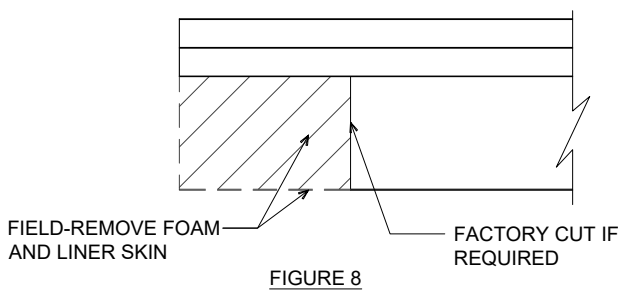

FIGURE 8
- 13.7 ALL WEATHER INSULATED PANELS THAT INCORPORATE END LAPS WILL ARRIVE AT THE JOB SITE WITH THE FOAM AND LINER FACE IN PLACE. THE LINER FACE OF THE UPPER COURSE PANEL WILL HAVE A FACTORY SAW CUT 3" TO 6" FROM THE END OF THE PANEL (SEE FIGURE 8). REMOVE THE METAL AND FOAM AT THE END OF THE PANEL. CAREFULLY REMOVE ANY FOAM THAT REMAINS ON THE METAL SKIN TO ENSURE A POSITIVE AIR AND WATER INFILTRATION SEAL. ENSURE PANEL TO EXTERIOR FACING TRANSITION IS FREE OF EXCESS FOAM AND DEBRIS (SEE FIGURE 8A) TO ALLOW PANEL ENDS TO JOIN TOGETHER TIGHTLY FOR FOAM-TO-FOAM CONTACT.